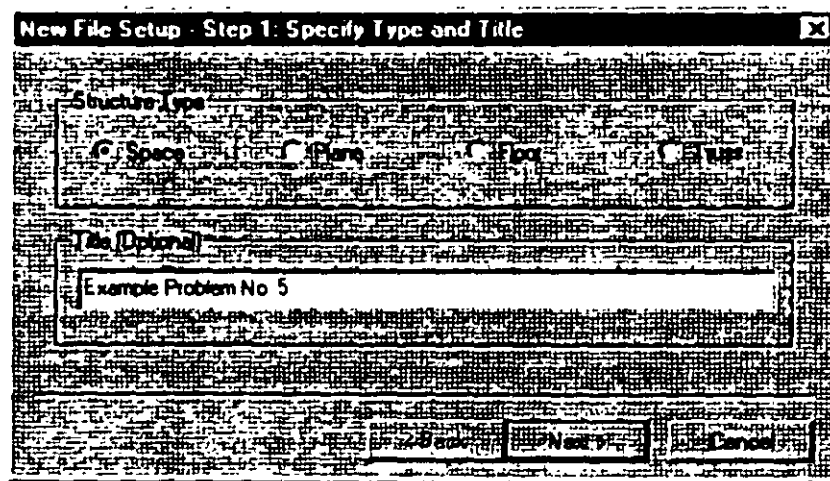

Figure 5.5
4. In the *New File Setup* dialog box, choose *Space* as the *Structure Type* and specify an optional *Title* (EXAMPLE PROBLEM NO. 5). Then click on the *Next* button as shown in Figure 5.5.